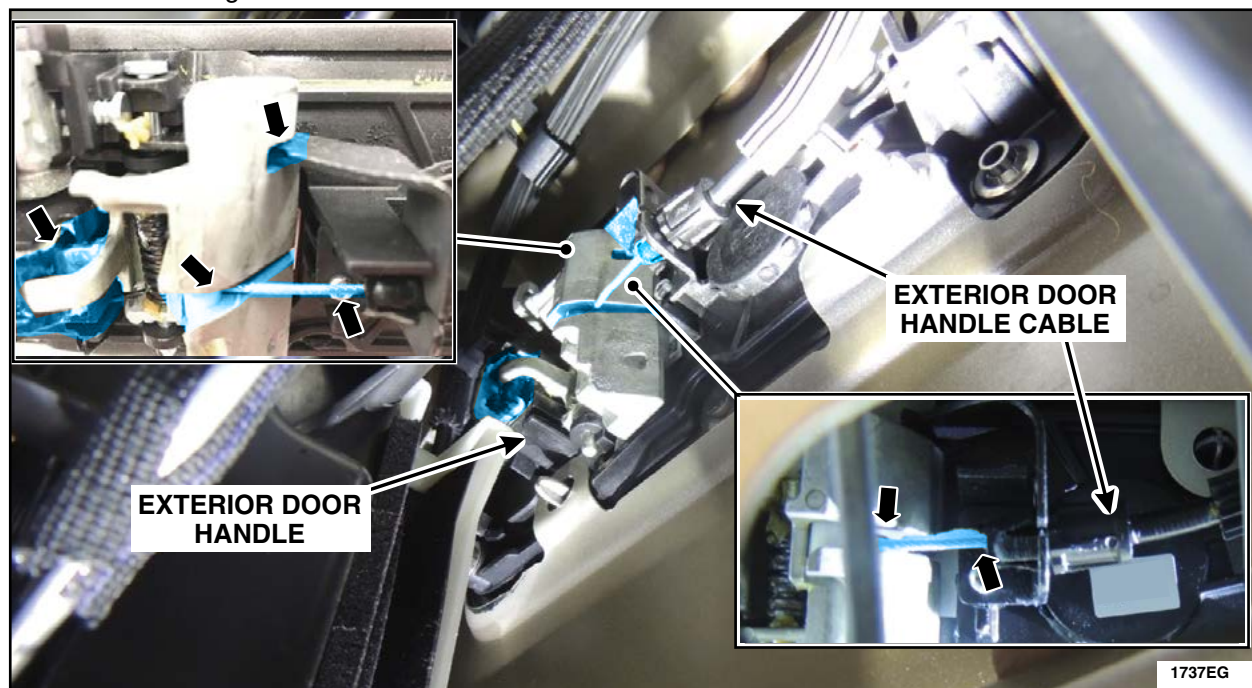

FIGURE 14a
19. Through the large door sheet metal opening, use a brush to apply a light film of Motorcraft® *low temperature* **XG-16** grease to the exterior door handle cable end, and to the three additional highlighted areas. See Figures 14a and 14b.